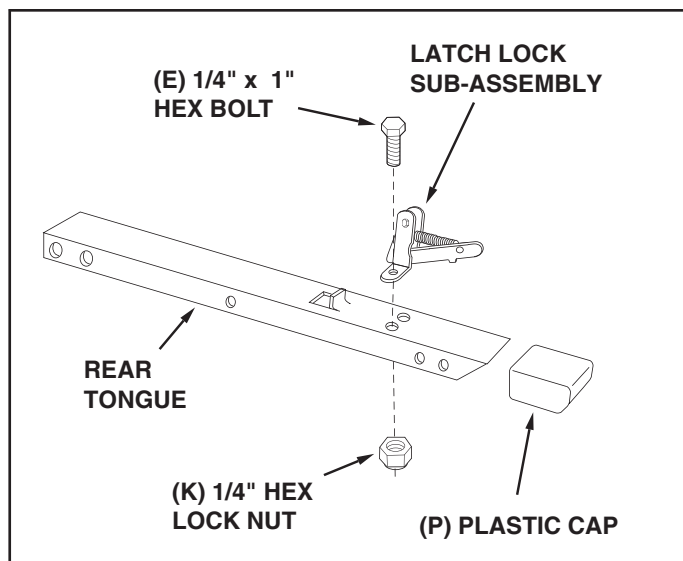

FIGURE 2
5. Assemble the latch lock subassembly to the rear tongue using two 1/4" x 1" hex bolts (E) and 1/4" hex lock nuts (K). **Tighten.** See figure 2.
6. Assemble the plastic cap (P) to the front end of the rear tongue as shown in figure 2.